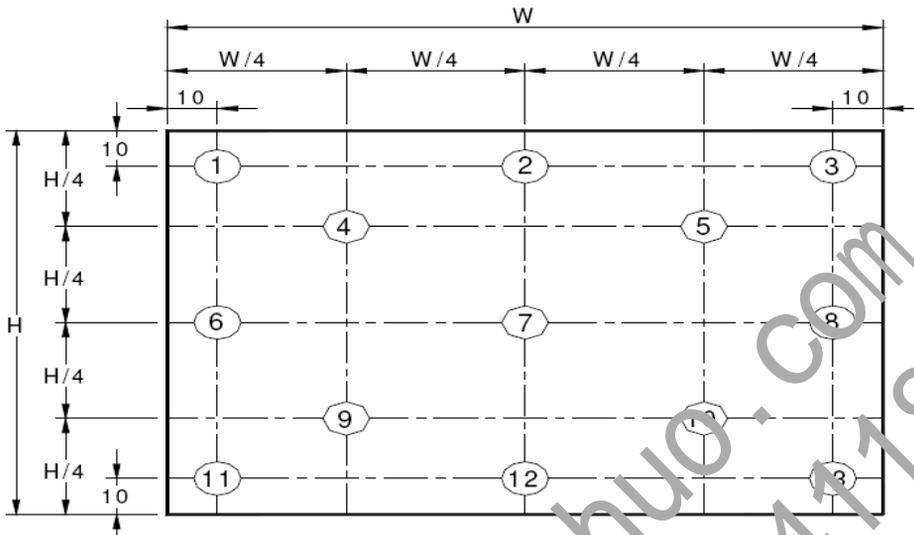

Figure 9. Uniformity Measurement Locations (13 points)
- The White luminance uniformity on LCD surface is then expressed as : $\Delta Y = \text{Minimum Luminance of 5(or 13) points} / \text{Maximum Luminance of 5(or 13) points}$. (see Figure 8 and Figure 9).
The White luminance uniformity on LCD surface is then expressed as : $\Delta Y5$ = Minimum Luminance of five points / Maximum Luminance of five points (see Figure 8), $\Delta Y13$ = Minimum Luminance of 13 points / Maximum Luminance of 13 points (see Figure 9).